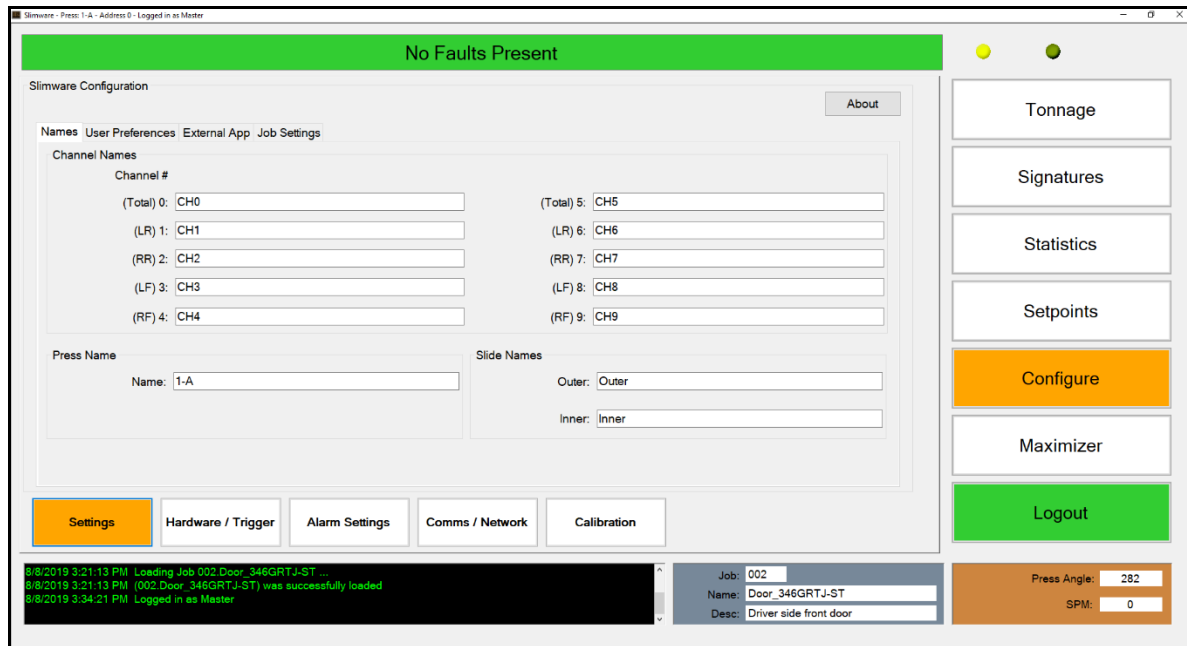

Figure 2-10: Configure Settings - Names Screen
Figure 2-10 shows the initial configure page (Settings). The Settings screen is split up into four different tabs (Names, User Preferences, External App, and Job Settings). Use the buttons near the bottom of the configuration window to navigate to the different configuration menus.
- **Channel Names** – Each channel can be configured for a specific name. Type in the desired name and press “Enter” to save the name to the desired corner. The default names are shown in Figure 2-10.